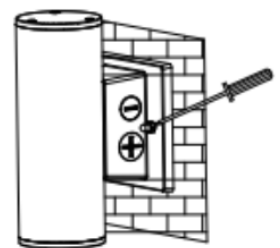

Fig. 1.4
4. Mount the luminaire to the mounting plate and secure it with the supplied nut (Fig. 1.4).